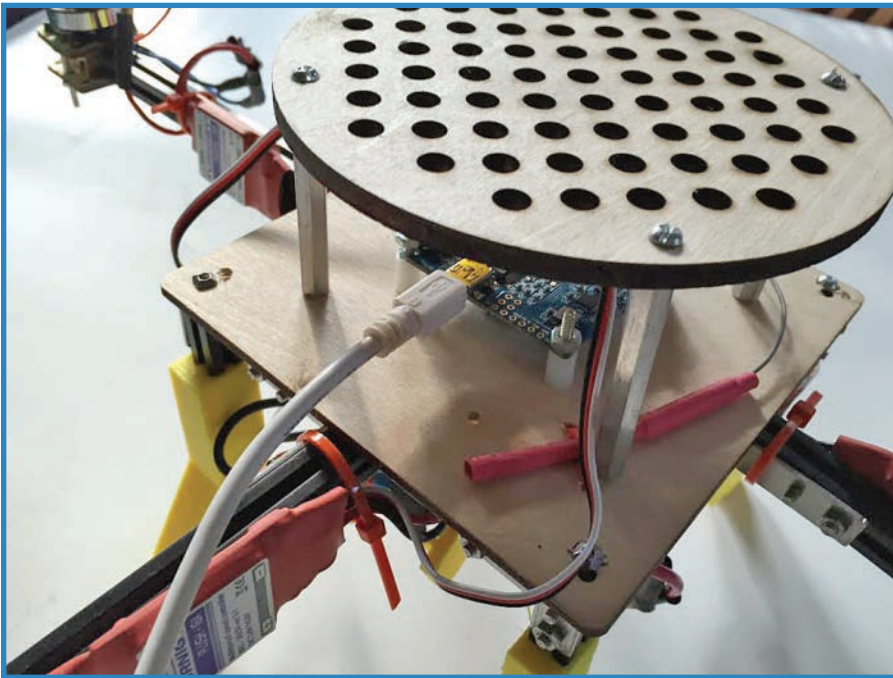

FIGURE 14.8 Use a USB cable to connect the MultiWii to your computer.
4. Connect the MultiWii to your PC, using a micro-USB cable, as shown in Figure 14.8.